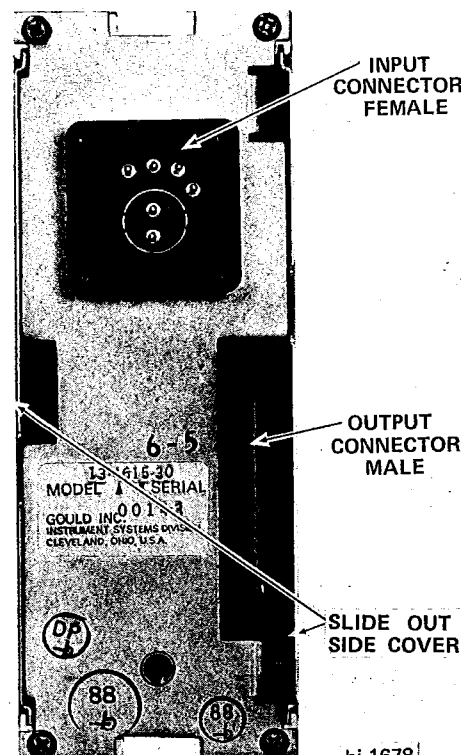

FIGURE 2-1 REAR VIEW
1. Connections to the pre-amplifier are made at the rear. (Figure 2-1). A four wire, double foil shielded signal cable (Gould P/N 232956) should be used.
The amplifier is designed to operate on + and -15 volt 100ma regulated supplies, and 13vrms, 60Hz sine wave at 200 ma current. Output and power connections are provided through an 8 pin card edge connector on the rear of the preamp. (Figure 2-1). The mating connector is located in the recorder chassis.